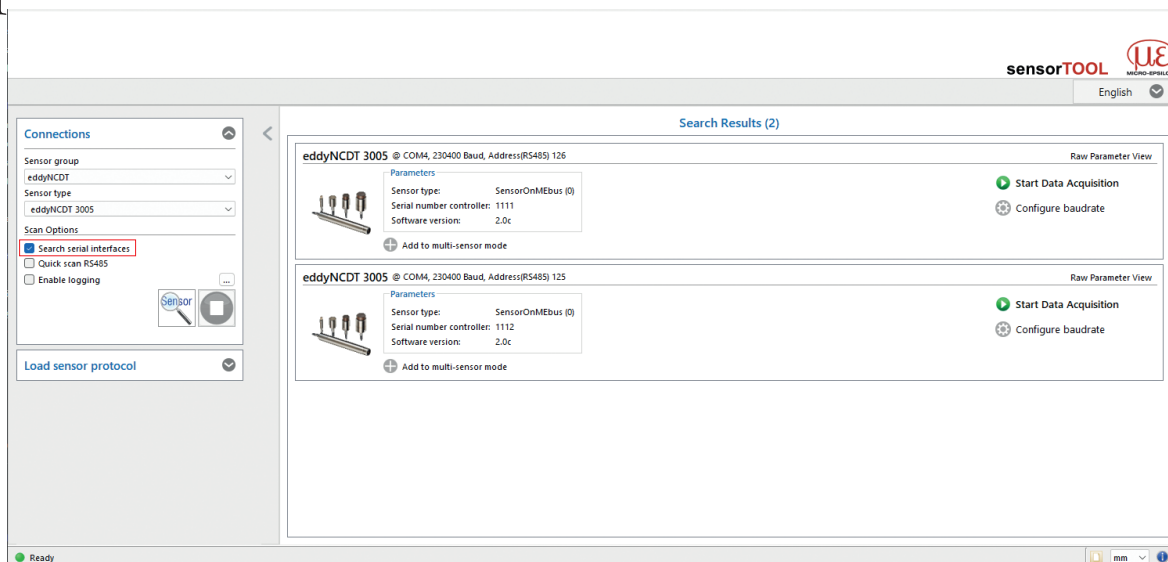

Fig. 15 First interactive site after calling the `sensorTOOL`
- Please note that the checkbox `Quick scan RS485` must be deactivated, see Fig. 15 to find multiple channels.